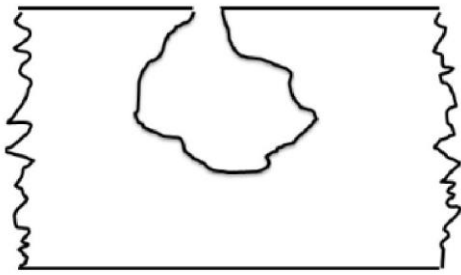

Fig. 1 Cavities in which microorganisms (biofilm) can develop
In the food industry, a great deal of equipment is made of stainless steel (SS), including tanks and spray dryers. It is strong, easy to clean and resistant to corrosion. However, process conditions bring about mechanical and chemical stresses, through which, over time, corrosion and cracks also occur in SS. If these small defects are not detected and rectified in time, this can lead to damage and ultimately even leakage. However, in a first stage, in the cavities of the indentations and cracks (figure 1) microorganisms already accumulate and grow, which can result in contamination of the product.